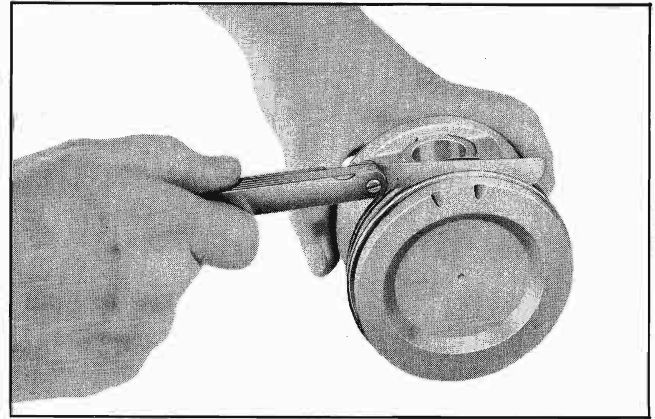

Fig. 6-73 Measuring Side Clearance of Ring in Groove
5. Measure side clearance of rings in ring groove (Fig. 6-73) as each ring is installed. Clearance with new pistons and rings should be as follows: